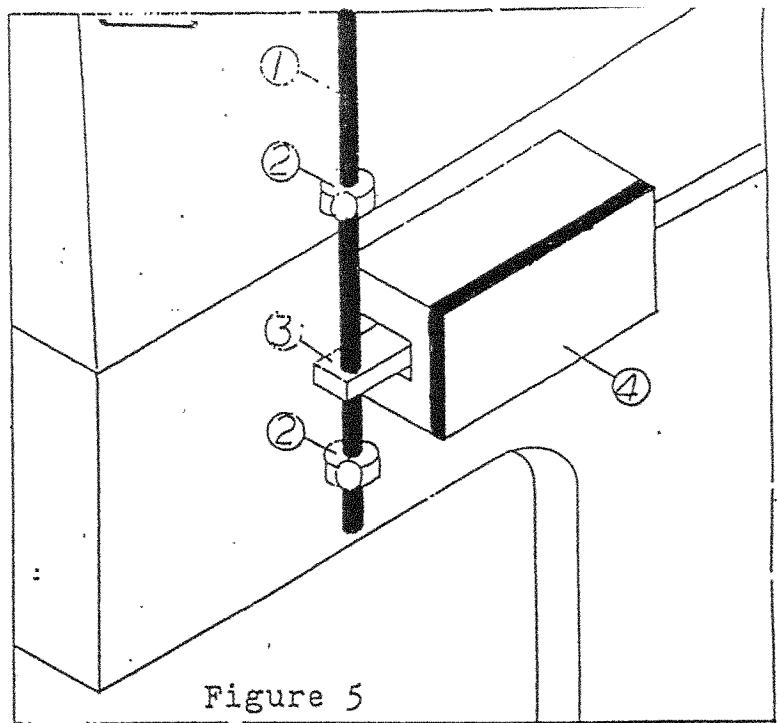

Figure 5
6. Release limit switch tabs from shipping position (see fig. 5).
This switch (Fig. 5) is provided to limit travel of the hydraulic cylinder during punching operations.
If it becomes necessary to raise the cylinder before the down stroke is completed, press down on the limit switch actuator (Item #3, Fig. 5) to reverse the cylinder motion.